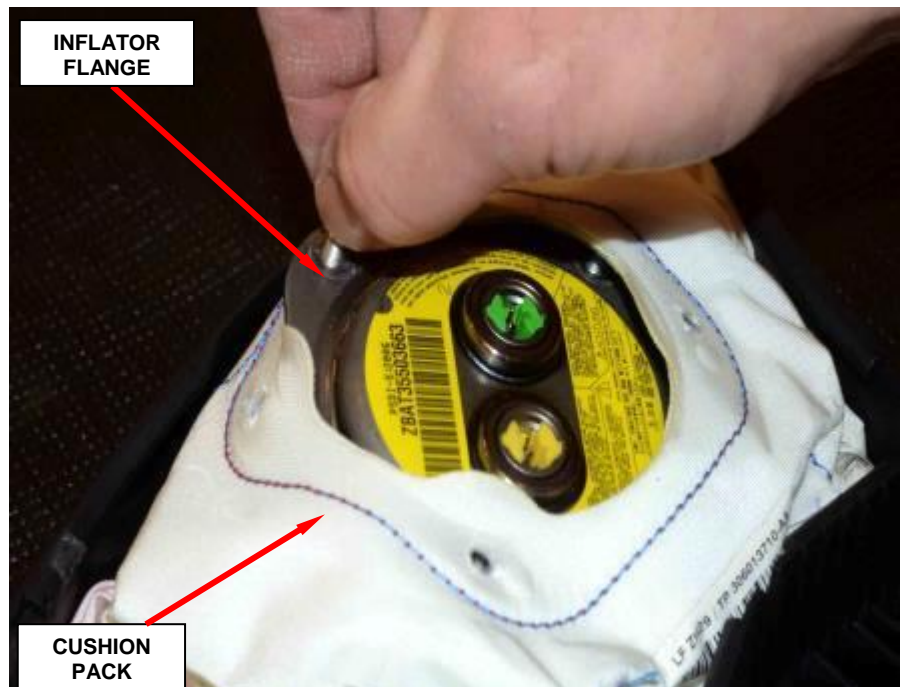

Figure 10 – Remove Inflator
- e. In this rotated position, peel one edge of the inflator flange out of the cushion pack (Figure 10).